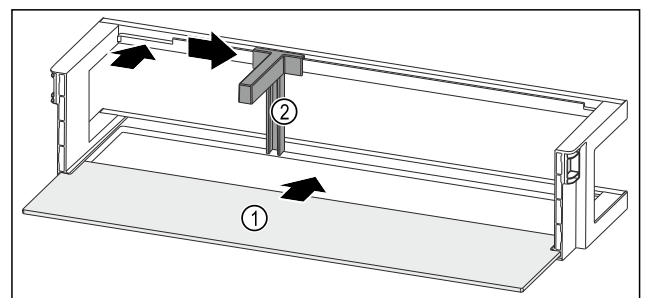

Fig. 101 Door rack with shelf
- ▶ Push the shelf Fig. 101 (1) into the side recesses.
- ▶ Insert the bottle holder Fig. 101 (2) in the recess.
- ▶ Push the bottle holder Fig. 101 (2) to the desired position to the side.